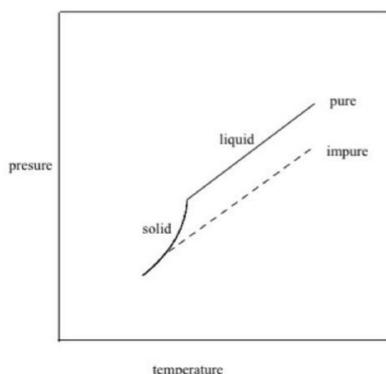
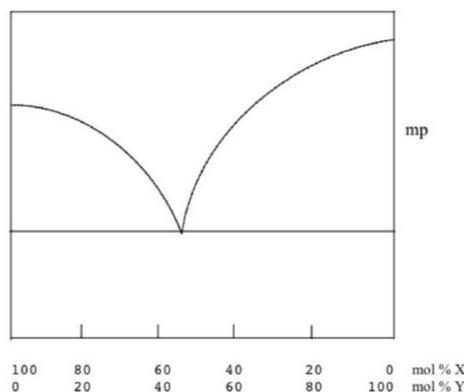

Figure 5a.
Figure 5b.
a. Lower the melting point of the substance, with the upper limit considerably below the true melting point. The presence of an impurity in the molten compound, reduces its vapor pressure thus lowering the melting point of the compound (Figure 5a). The greater the amount of impurity, the greater is the melting point depression (Figure 5b).